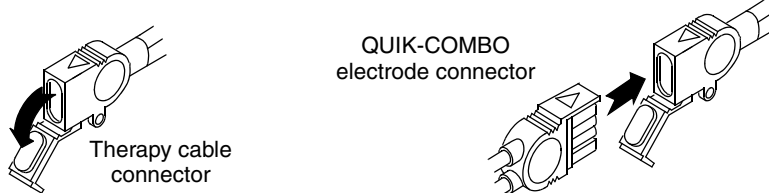

Figure 5-3 Connecting QUIK-COMBO Electrodes to Therapy Cable
- 1 Open the protective cover on the QUIK-COMBO therapy cable connector (see Figure 5-3).